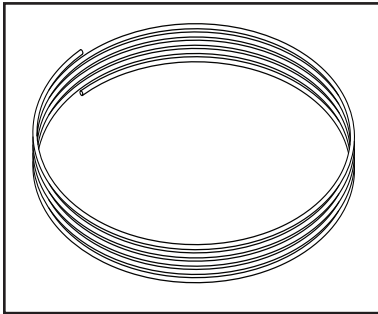
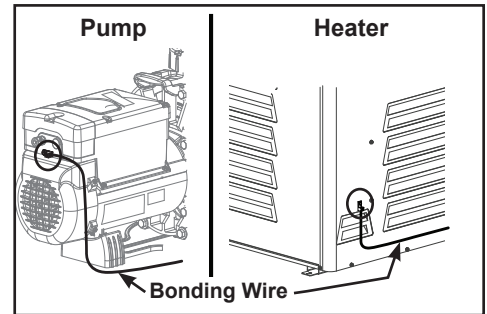

Figure 19. Bonding Wire
Figure 21. Bonding Lug Locations
18. Attach one end of the bonding wire to the bonding lug located on the bottom of the chassis backplate on the power pack (see Figures 19 and 20). Attach the second end to a common bonding point such as the pool pump or heater. Make sure to refer to the pump or heater manual for the location of the bonding lug connection prior to making this connection. See Figure 21 for examples of bonding lug locations. Do not use the power pack as the common bonding point. There should only be one bonding connection to the power pack. Each piece of non-related pool equipment requiring a ground should also be bonded to the common, approved bonding point.